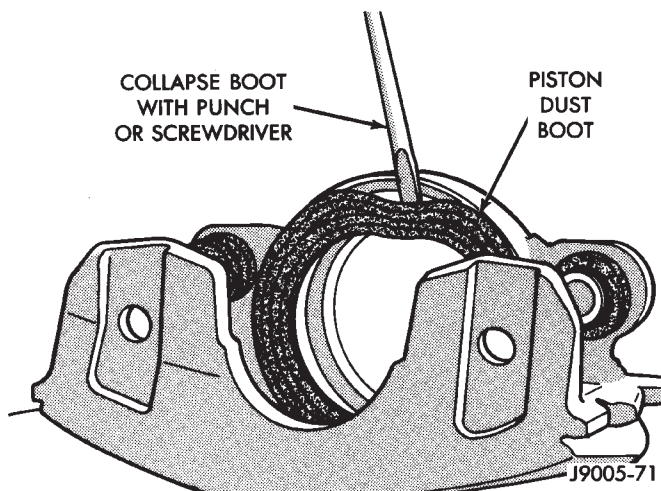

Fig. 66 Caliper Piston Dust Boot Removal
(5) Remove caliper piston dust boot with suitable tool (Fig. 66) and discard boot.